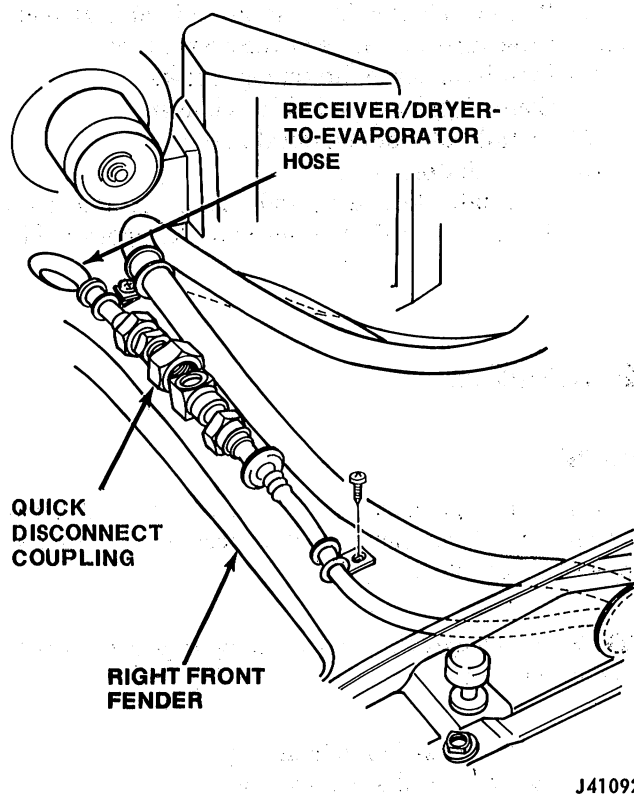

Fig. 3E-9 Quick-Disconnect Coupling
- (1) Discharge system as described in General Information and Refrigerant Handling section of this chapter.
- (2) Disconnect inlet (suction) line at compressor.
- (3) Disconnect receiver/dryer-to-evaporator hose at quick-disconnect coupling (fig. 3E-9).